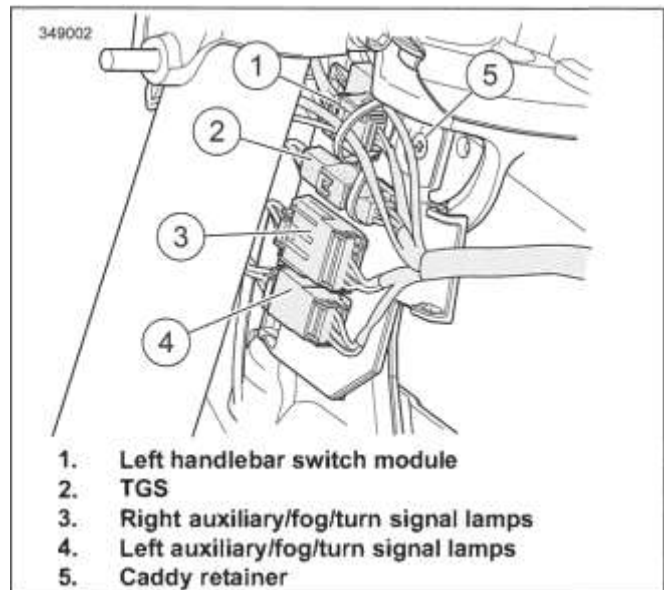

Figure 8-57. Left Side Connectors: Road King Models
1. See Figure 8-57. Disconnect front signal lamps connectors (3, 4).
8. See Figure 8-57. Connect front signal lamps connectors (3, 4).